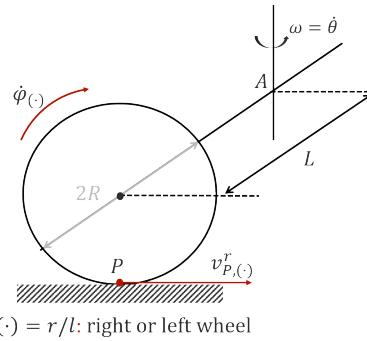

Figure 11.2. Pure rolling (no slipping) kinematic constraint
- *Pure rolling*: the wheels never slips or skids (Figure 11.2). Hence, letting $\dot{\phi}_l, \dot{\phi}_r$ be the angular velocities of the left and right wheels respectively, the velocity of the ground contact point P is given by: